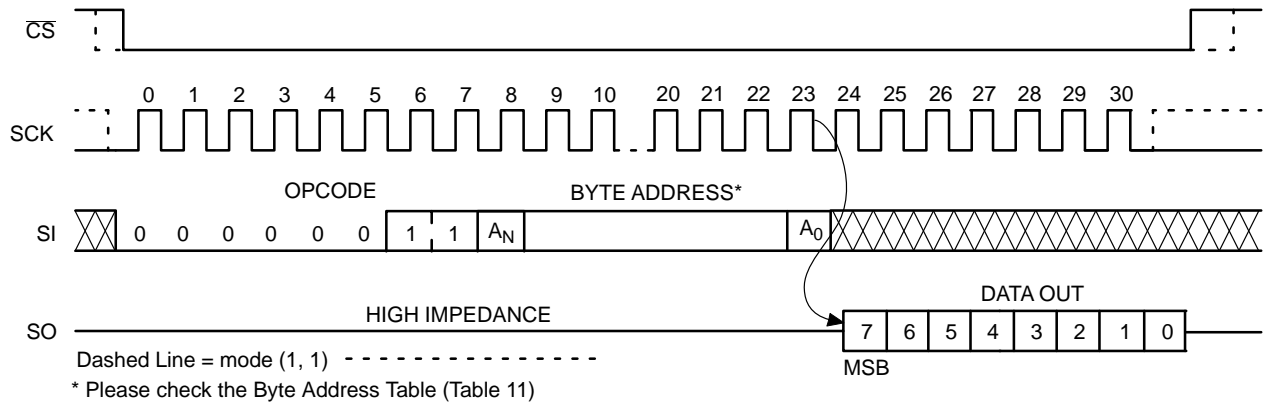

Figure 9. READ Timing
After receiving the last address bit, the CAV25512H will respond by shifting out data on the SO pin (as shown in Figure 9). Sequentially stored data can be read out by simply continuing to run the clock. The internal address pointer is automatically incremented to the next higher address as data is shifted out. After reaching the highest memory address, the address counter “rolls over” to the lowest memory address, and the read cycle can be continued indefinitely. The read operation is terminated by taking CS high.
Reading the additional 128-byte Identification Page (IP) is achieved using the same Read command sequence as used for Read from main memory array (Figure 9). **The IPL bit from the Status Register must be set (IPL = 1) before attempting to read from the IP.** The [A6:A0] are the address significant bits that point to the data byte shifted out on the